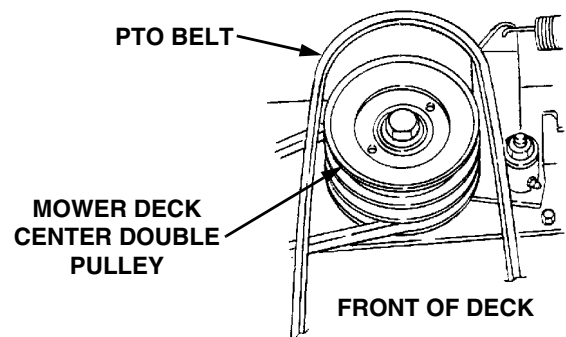

Figure 51
15. Working from the left/rear of the mower deck, install the rearward end of the PTO belt on the upper pulley of the deck center double-pulley (See Figure 51). Ensure that the narrow side of the belt engages the groove of the upper pulley, and that there is no more than a 1/4 twist in the belt between the front pulleys and the double pulley.